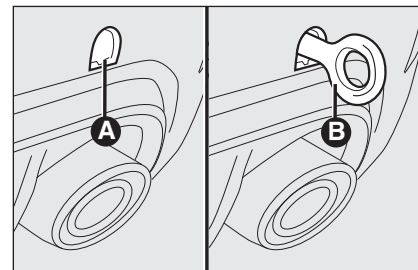

fig. 43
- release the cap **A** (only present in the rear section Fig. 43);